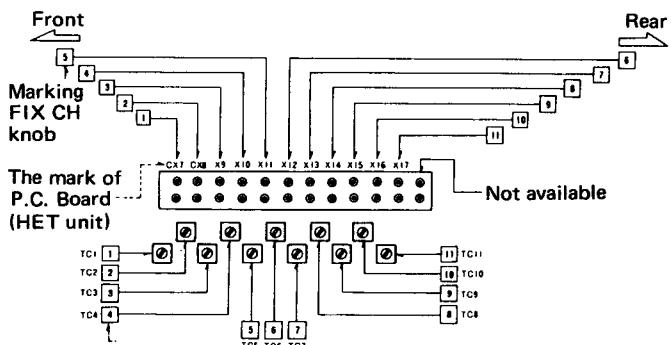

Fig. 14 HET Unit (X50-1410-61)
When fixed channel crystal oscillators are added in the transceiver, adjust their frequencies as outlined below (the relationship between the markings on the FIX CH knob and the crystal oscillator sockets are shown in Fig. 14):
6. While observing the digital display, adjust the trimmer corresponding to the crystal-inserted socket using an insulated screw driver until the digital display reads the specified frequency (see Fig. 14).